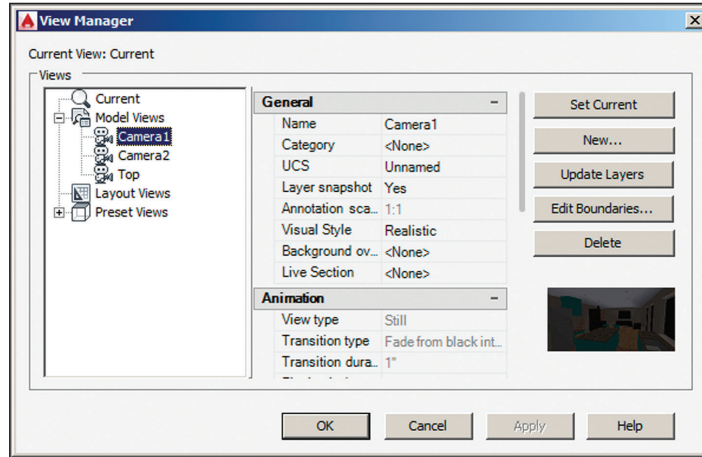

FIGURE 18.9 Selecting a predefined camera view
13. Type V (for View) and press Enter. Double-click Camera1 in the View Manager (see Figure 18.9). Click Apply and OK.